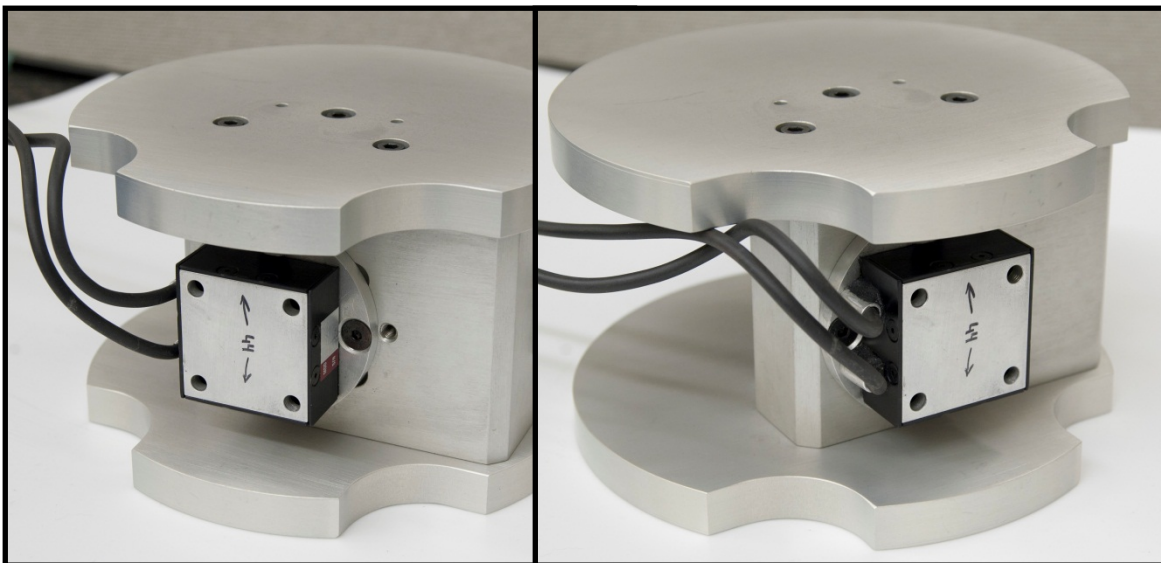

Figure 18. Mount 6 axis upper neck load cell to headform
- Mount the 6 axis upper neck load cell to the headform using four M5 x 12 FHCS. For flexion tests, use the rear set of bolt holes for the load cell. Wiring should protrude out the back of the headform (Figure 18).